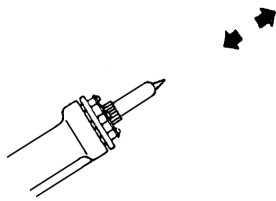

FIG. 1
2. Raise the temperature of the heating element to allow the clogged solder to melt. Clean the tip by sliding the spring wire up and down until the passage is clear (see fig. 1)